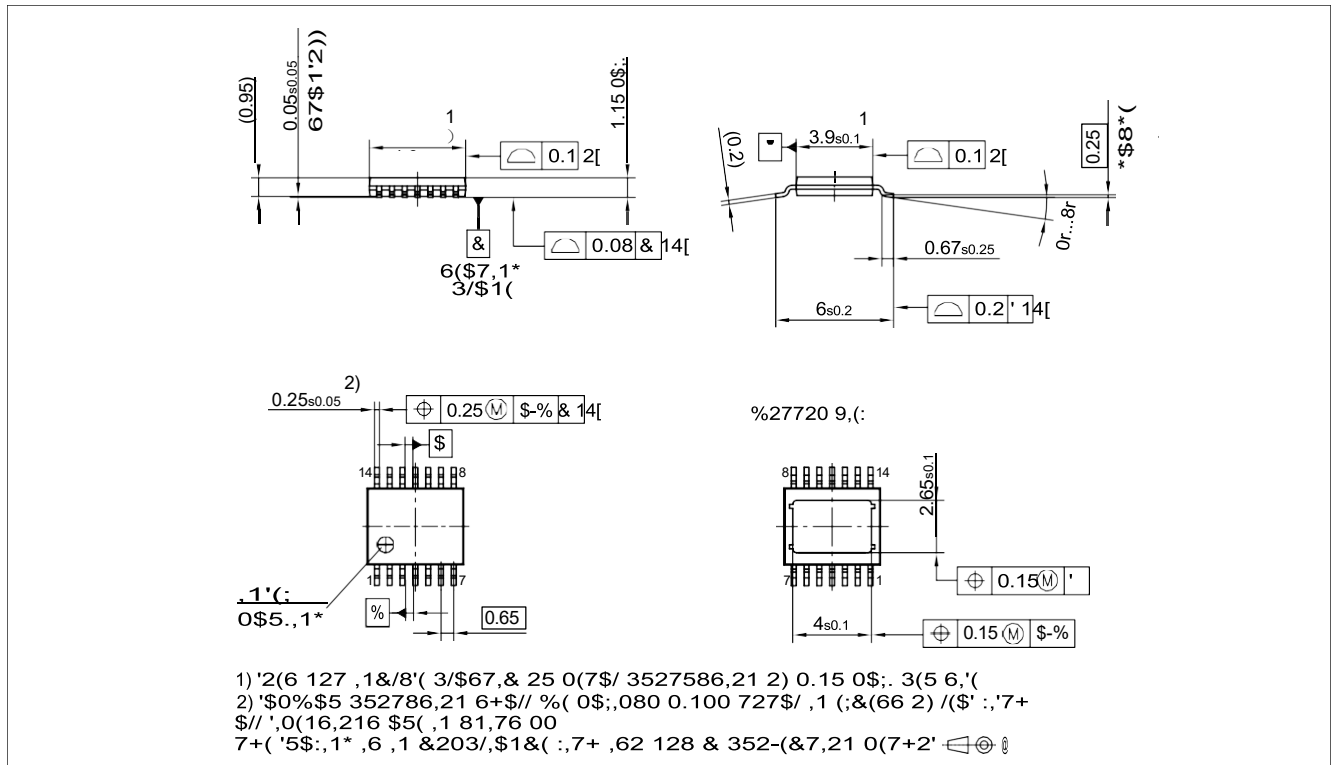
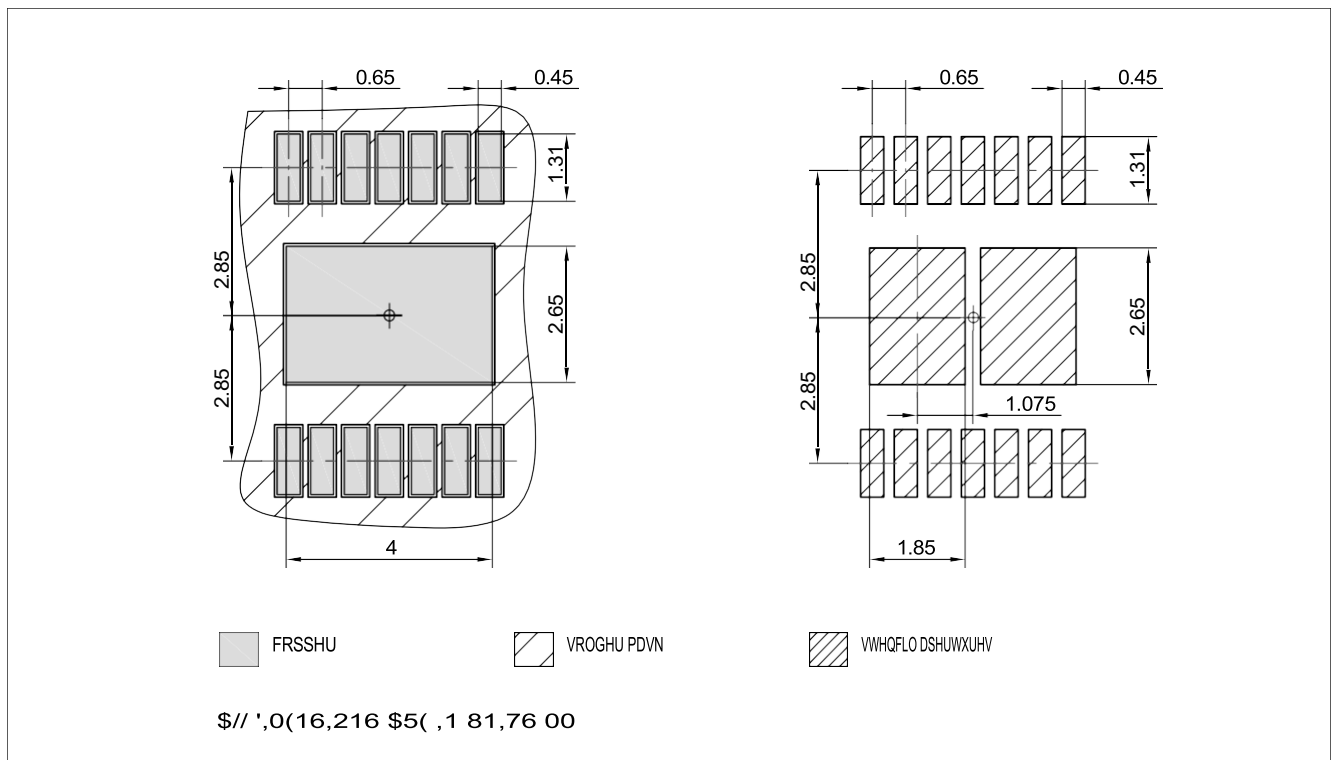

Figure 38 PG-TSDSO-14 (Thin (Slim) Dual Small Outline 14 pins) Package Outline
Figure 39 PG-TSDSO-14 (Thin (Slim) Dual Small Outline 14 pins) Package pads and stencil
1.02, 2019-02-05	<p>Figure 9, Figure 10 updated</p> <p>Page 1: updated (figure product) Table 22 updated (punctuation)</p> <p>Chapter 9.3, Chapter 9.3.1 updated (typo)</p> <p>Page 1: updated (Package PG-TSDSO-14-22 → Package PG-TSDSO-14)</p> <p>Figure 38 updated (PG-TSDSO-14-22 (Thin (Slim) Dual Small Outline 14 pins) Package Outline → PG-TSDSO-14 (Thin (Slim) Dual Small Outline 14 pins) Package Outline)</p> <p>Figure 39 updated (PG-TSDSO-14-22 (Thin (Slim) Dual Small Outline 14 pins) Package pads and stencil → PG-TSDSO-14 (Thin (Slim) Dual Small Outline 14 pins) Package pads and stencil)</p> <p>Table 1 updated (corrected typos in table Product Summary: <math>k_{ILIS}</math>: 14700 → 14500), <math>I_{VS(OFF)}; 1</math> → 0.3 <math>\mu</math>A)</p> <p>Table 1 updated (Symbol: <math>I_{VS(OFF)}</math> → <math>I_{VS(OFF)_85}</math>)</p> <p>P_6.5.23.1 updated (Symbol: <math>I_{VS(OFF)}</math> → <math>I_{VS(OFF)_85}</math>)</p> <p>P_6.5.23.2 updated (Symbol: <math>I_{VS(OFF)}</math> → <math>I_{VS(OFF)_150}</math>)</p>